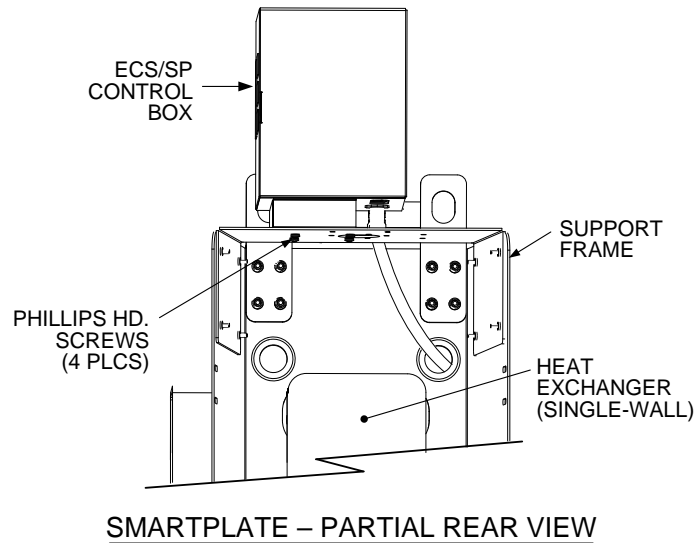

Figure 2-3. Repositioning ECS/SP Control Box
3. From the rear of the unit (Figure 2-3, below), remove the four Phillips head screws securing the base of the Control Box to the unit's frame assembly.